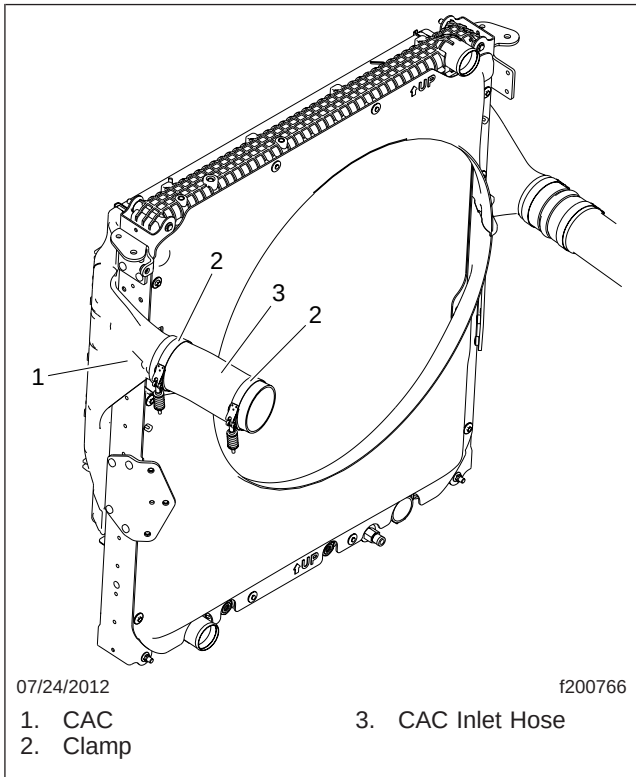

Fig. 2, CAC Hose, Left Side
17. Remove the lower fan shroud from the radiator. See Fig. 2.
2. Install the lower fan shroud. See Fig. 2.